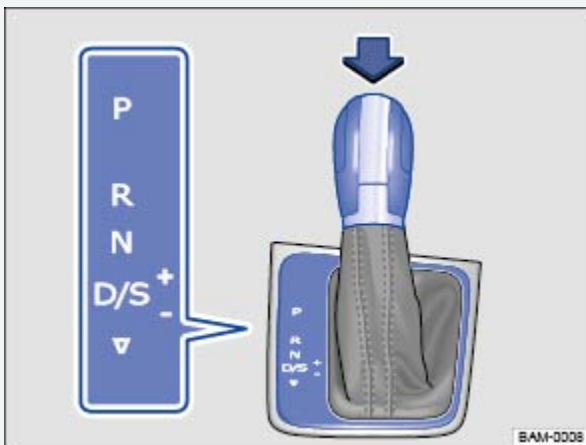

Fig. 141 Automatic transmission selector lever with shift lever release button (arrow).
Automatic transmission vehicles have an Automatic Shift Lock (ASL). With ASL, you must switch on the ignition, depress the brake pedal and hold it down while pressing the release button on the selector lever handle in the direction of the arrow ⇒ Fig. 141 to move the selector lever out of Park (P) and into a drive gear. When the selector lever is in Neutral (N), you also have to depress the brake pedal before you can move the selector lever to position (D/S), or Reverse (R).
Changing gear selection	Switch between Drive (D) and Sport drive (S) by pulling the selector lever once to the rear from gear position D/S ⇒ Fig. 141 . The selector lever always returns to gear position D/S.